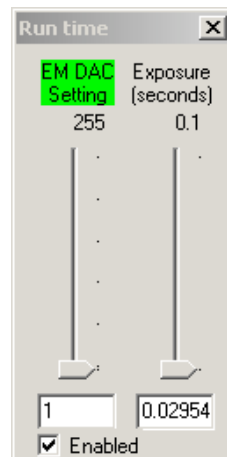

Figure 2. *The slider control window for exposure time and EM gain.*
The slider window (see Fig. 2) gives you easy access to the electron multiplication (EM) gain and exposure time setting. You can use the mouse to drag the sliders or type values directly into the fields below them. You can in principal switch off the EM amplifier here, but you shouldn't. The EM gain slider is disabled if the conventional amplifier is in use. Please note that the EM setting here is *not* the physical gain and that it is not linearly related to it! See the AstraLux thesis for typical gain curves for different temperatures.